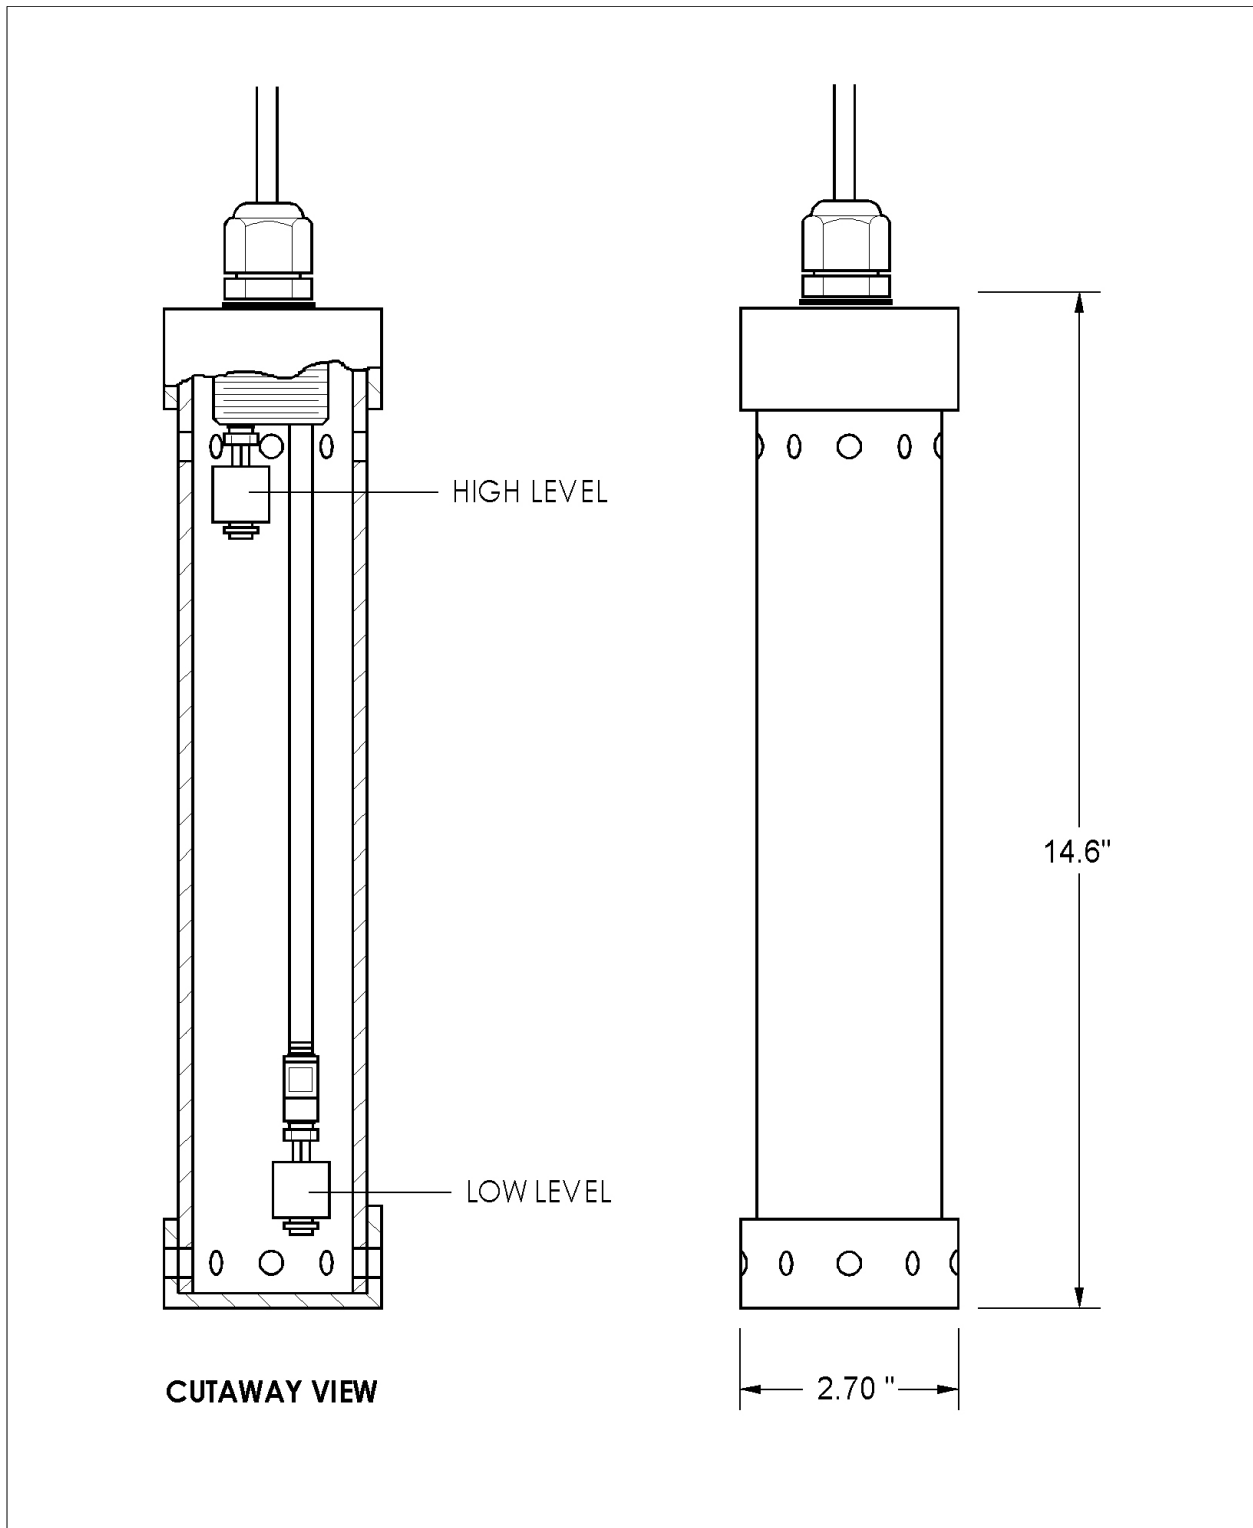

FIGURE 1: Internal view and external dimensions of sump brine sensor.
The ATI-5010S Interstitial Sump Brine Sensor is designed as a leak detection device for liquid filled tank sumps. The principle of operation of the sensor is simple. The unit has two (2) float elements contained in a housing which, when placed in a brine sump, will monitor the liquid level. Should the brine or any other liquid used in the interstitial space rise or fall, the sensor will send its indication to a remote monitor which will show there is a leak. The unique design allows for easy installation and immediate alarm response (see FIGURE 1).